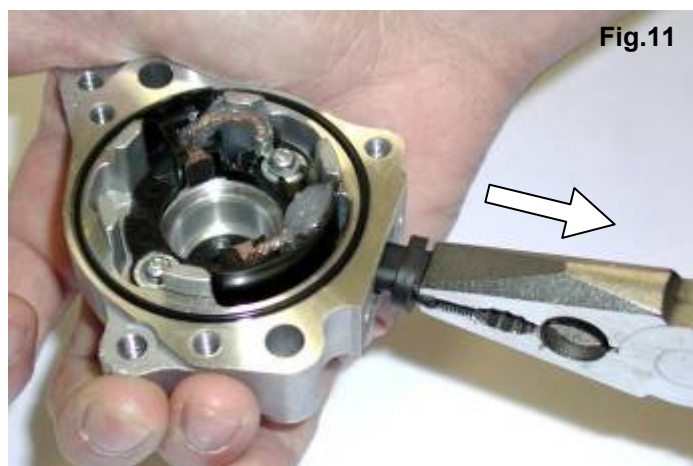

Fig.11
-REMOVE THE LITTLE RUBBER CAP "F" (see Fig.11).
-REMOVE SILICONE FROM BRUSHES WITH A SCREWDRIVER (see Fig. 11)